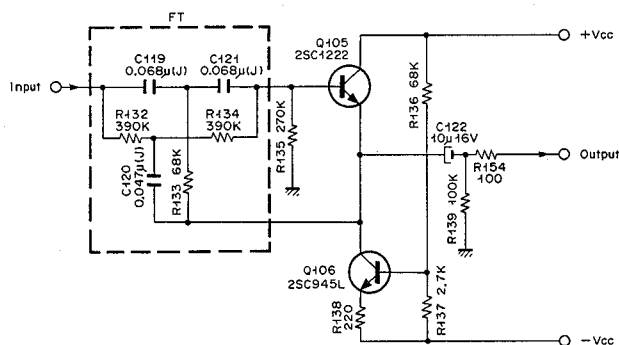
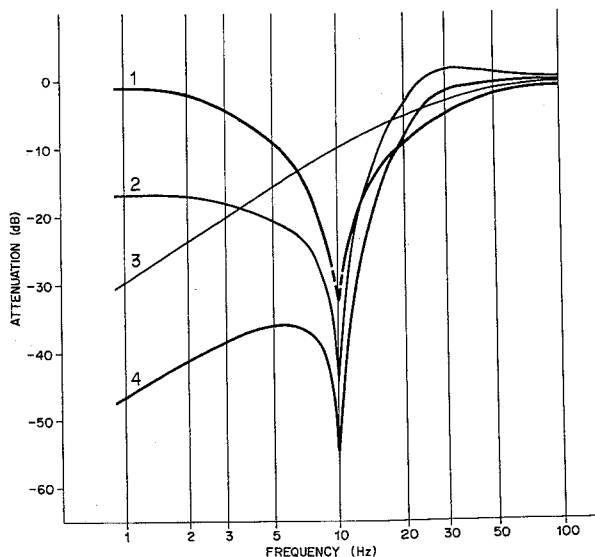

Fig. 2.4.3 Subsonic Filter Circuit
Fig. 2.4.4
Fig. 2.4.3. shows the subsonic filter of the N-530. The portion represented by FT is generally known as a twin T filter. Its characteristics are illustrated in Fig. 2.4.4. (1). As shown, the curve of the twin T filter rapidly drops at 20 to 50 Hz, and attenuation at below 5 Hz is rather small. These demerits have been smartly eliminated by the N-530 as follows:
As shown in Fig. 2.4.3., the output from the twin T filter is amplified by Q105 and taken out from its emitter. This output provides positive feedback to the base of Q105 through C120 and R133. This greatly reduces the level down in the range 20 to 50 Hz. For greater attenuation in the range below 5 Hz, R135 is added to lower the load impedance of the filter and to change the impedance of each element so that the asymmetric curve as shown by Fig. 2.4.4. (2) can be achieved.
The curve shown in Fig. 2.4.4. (2) is satisfactory for the subsonic filter except insufficient attenuation at below 5 Hz.
Besides the N-530 uses a CR filter consisting of C122 and R139 to achieve a more ideal subsonic filter curve as shown by Fig. 2.4.4. (4). (In Fig. 2.4.4. (3) shows the CR filter curve and (4) is a combination of curves (2) and (3).)